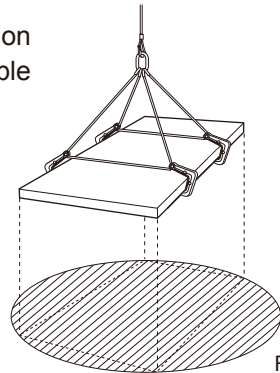

Fig. 8
7) Be sure to clear of the area of the operation for lifting or turning a load against possible drop off or fall over. (Fig. 8)